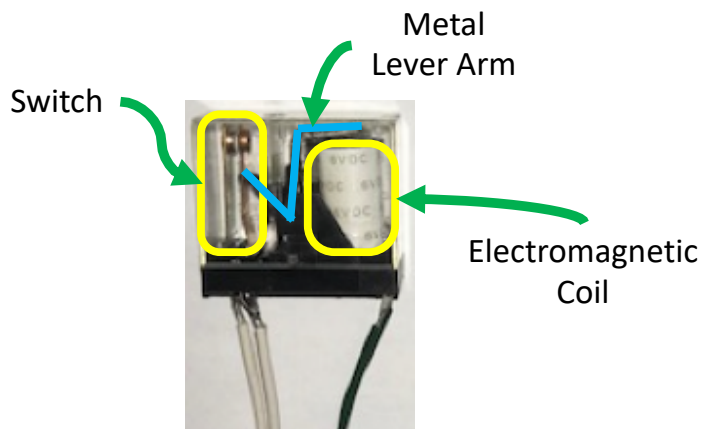
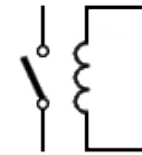

Figure 7: Electromagnetic Relay
Figure 8: Relay schematic symbol
An electromagnetic relay is an electrically controlled switch. That is, it works like the knife switch, but it can be opened and closed using an electrical signal instead of manually. Figure 7 shows an electromagnetic relay with some of its parts labeled. The green wires control the electromagnetic coil, similar to the electromagnet you probably made using wire and a nail in a science class a long time ago. The white wires connect to two ends of a switch, just like those that were connected to the knife switch. Figure 8 shows the schematic symbol for an electromagnetic relay.
15. Use the schematic symbol for the relay shown in Figure 8 to draw a schematic diagram for your new circuit. Your diagram should not contain the Logic Switches or the Logic Indicator. Instead, simply label those wires as input and output, as appropriate.